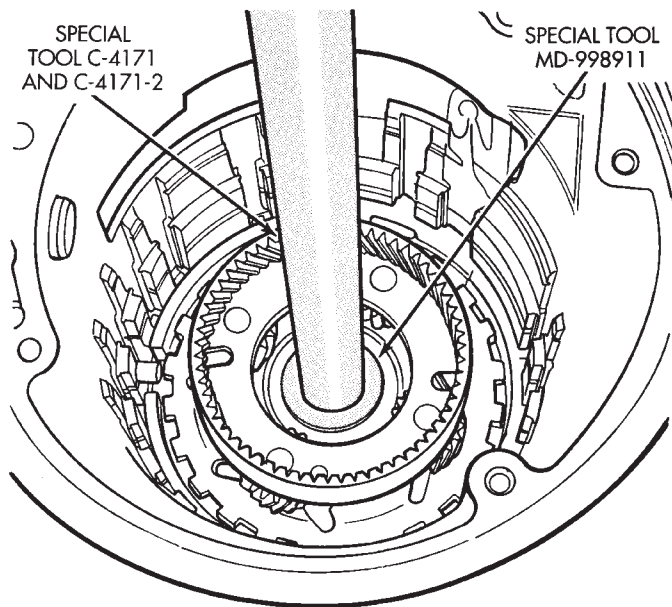

Fig. 150 Press Shaft Into Case
(5) Install output shaft/rear carrier into rear bearing. The shaft must be pressed into position. Use special tool MD-998911 (Disc) and C- 4171 and C4171-2 (Handle) to press shaft into rear bearing (Fig. 150).